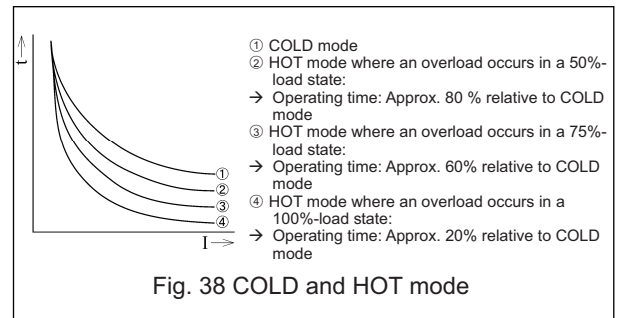

Fig. 38 COLD and HOT mode
④ NON setting disables protective functions. If the short time delay trip function and the instantaneous trip (or MCR) function are both attempted to be set to NON, however, the fail-safe operates so that:
⑤ A pickup current means the threshold by which the OCR determines whether or not an overcurrent occurs. When the current flowing through the OCR exceeds the pickup current setting provided that $[I_n] \times 1.05 < \text{pickup current setting} \leq [I_n] \times 1.2$, the OCR starts counting the time for tripping. Once the current flowing through the OCR reduces to less than the pickup current setting, time count is reset.
⑥ In HOT mode, the OCR is actuated in shorter time than in COLD mode when an overload occurs after a certain degree of load is maintained for a certain time of period. The OCR is factory set to COLD mode. See 5-3-2-6 for how to set the OCR to HOT mode. If the control power is lost, load data stored in HOT mode is cleared. Fig. 38 shows the operating time in COLD and HOT modes.
⑦ The short time delay trip function has precedence over the long time delay trip function. The OCR operates at the short time delay trip timing even in those current ranges in which the long time delay trip time setting is shorter than the short time delay time setting.
⑧ If DC24V zone interlock power is not provided between ③③ and ③④, the zone interlock is inoperative and the short time delay trip function works with a total clearing time of 50 ms or less when a fault current is detected.